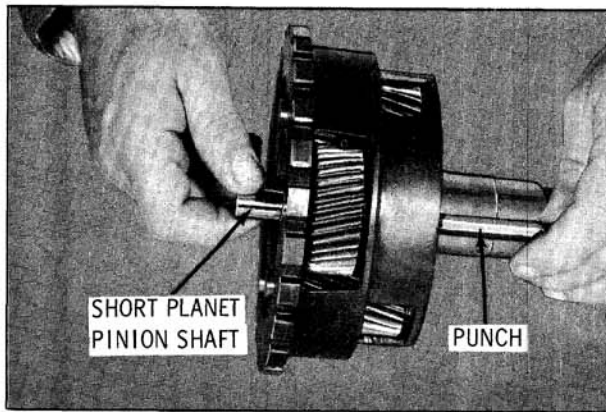

Fig. 6-456 Removing Short Planet Pinion Gear
3. Remove the short planet pinion shafts and short pinions. (Fig. 6-456)